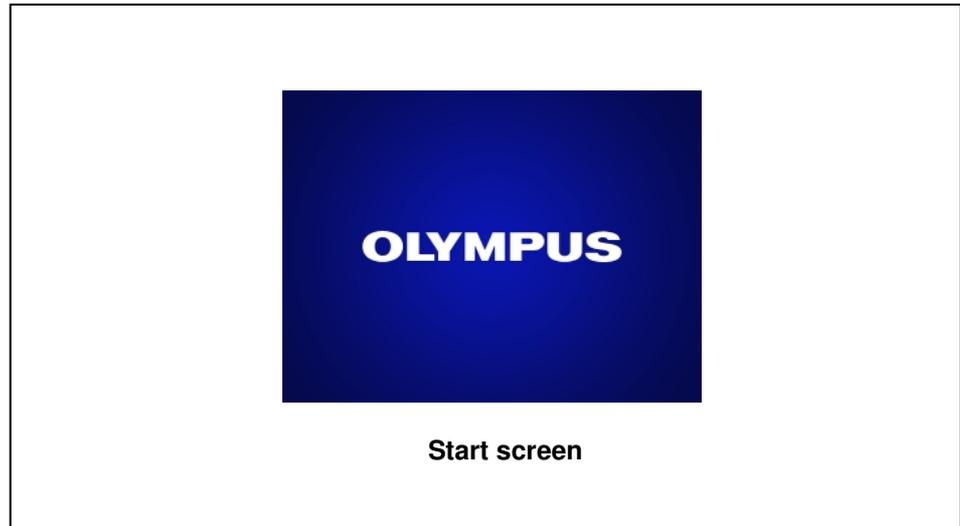
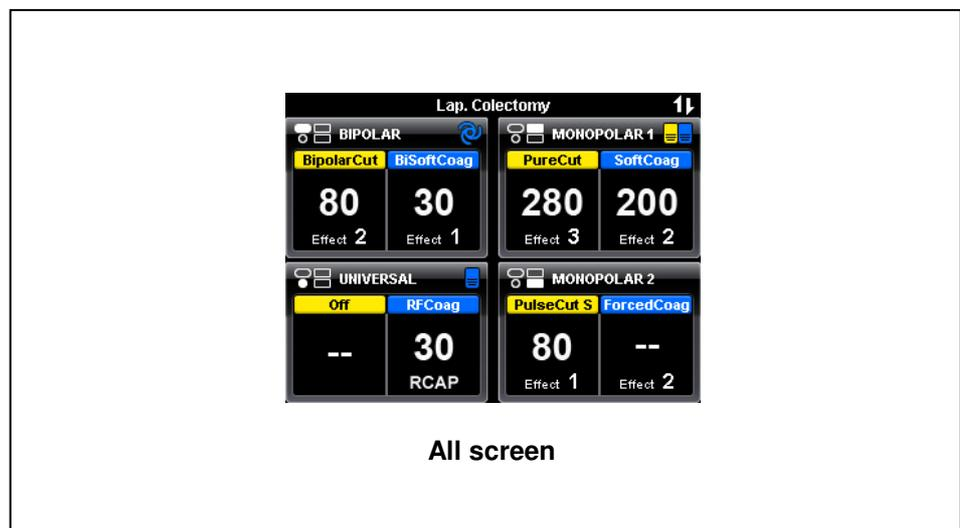

Figure 4.1
Figure 4.2
- Confirm that the “Start screen” (see figure 4.1) is shortly displayed on the touch-screen, then the “All screen” (output settings with the recall of the last settings of all corresponding output sockets, see figure 4.2) is displayed and the electrosurgical generator is ready for use.